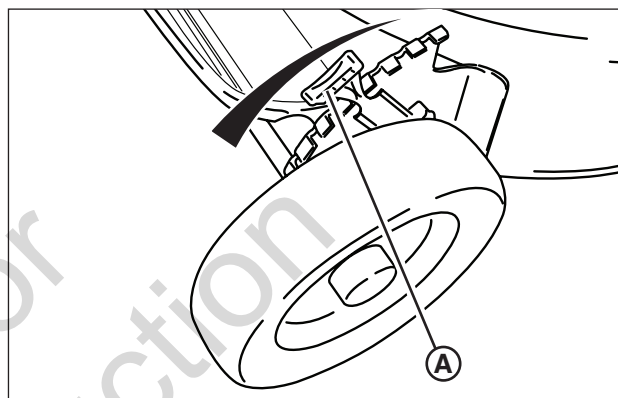

Figure 6: Adjusting cutting height
1. Pull the height adjusting latch (**A**, **Figure 6**) outward and move to the desired cutting height.